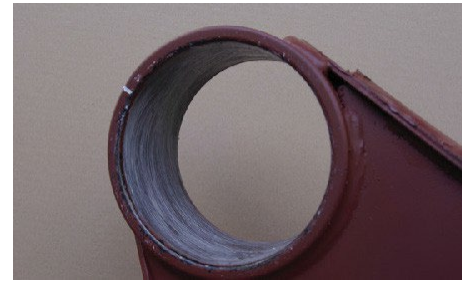
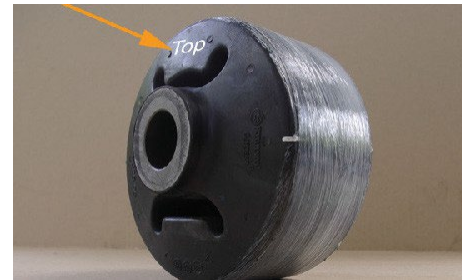

Fig. 8 - Lubricated receptacle
Fig. 9 - Lubricated pivot bushing
1. Lubricate the threads on the threaded rod (4).
2. Apply installation lubricant evenly to the internal surface of the receptacle as illustrated in Fig. 8 and to the external surface of the replacement pivot bushing as shown in Fig. 9.